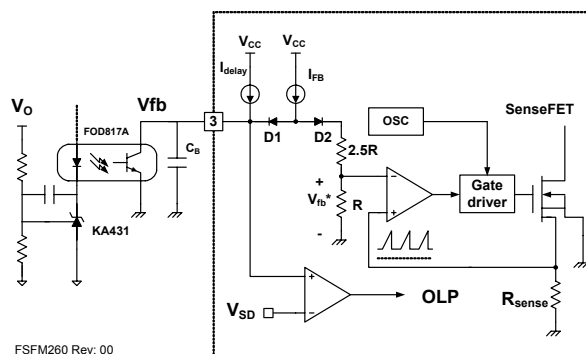

Figure 17. Pulse Width Modulation (PWM) Circuit
2. Feedback Control: FSFM260/261/300 employs current-mode control, as shown in Figure 17. An opto-coupler (such as the FOD817A) and shunt regulator (such as the KA431) are typically used to implement the feedback network. Comparing the feedback voltage with the voltage across the R_{SENSE} resistor makes it possible to control the switching duty cycle. When the reference pin voltage of the shunt regulator exceeds the internal reference voltage of 2.5V, the opto coupler LED current increases, pulling down the feedback voltage and reducing the duty cycle. This typically occurs when the input voltage is increased or the output load is decreased.
2.1 Pulse-by-Pulse Current Limit: Because current-mode control is employed, the peak current through the SenseFET is determined by the inverting input of the PWM comparator (V_{FB*}), as shown in Figure 17. When the current through the opto-transistor is zero and the current limit pin (#4) is left floating, the feedback current source (I_{FB}) of 0.9mA flows only through the internal resistor (R+2.5R=2.8k). In this case, the cathode voltage of diode D2 and the peak drain current have maximum